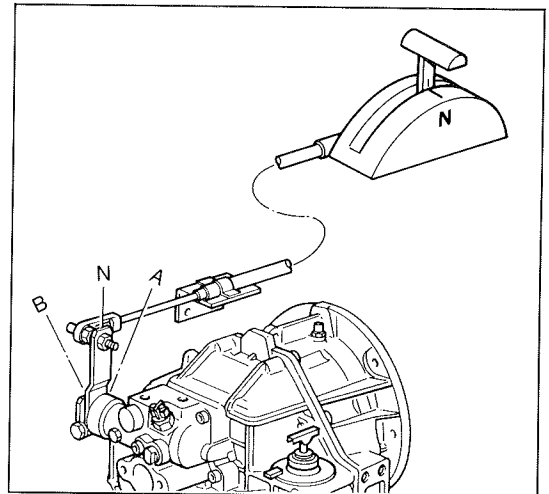

Figure 2
The neutral position of the lever (Figure 2, item 1) on the control panel must match the neutral position of the shifting lever (Figure 2, item 2) on the transmission.